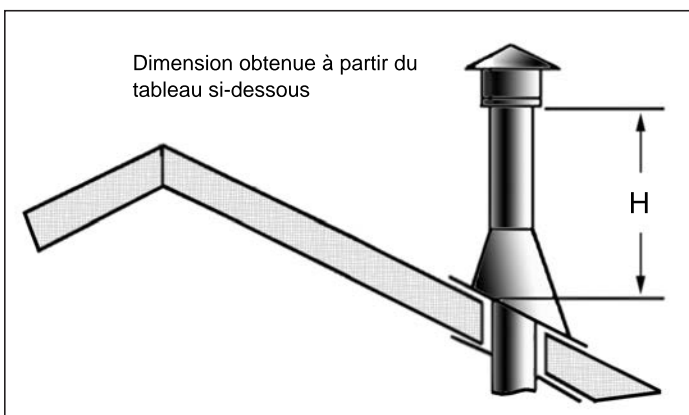

Figure 43: Height of Vertical Termination;
- STEP 8.** Continue to add pipe sections until the height of the vent cap meets the minimum code requirements. Refer to Figure 43 and Table 10. Note that for steep roof pitches, the vent height must be increased. In high wind conditions, nearby trees, adjoining roof lines, steep pitched roofs, and other similar factors can result in poor draft, or down drafting. In these cases, increasing the vent height may solve the problem.
Table 10: Minimum 'H' for Figure 43.